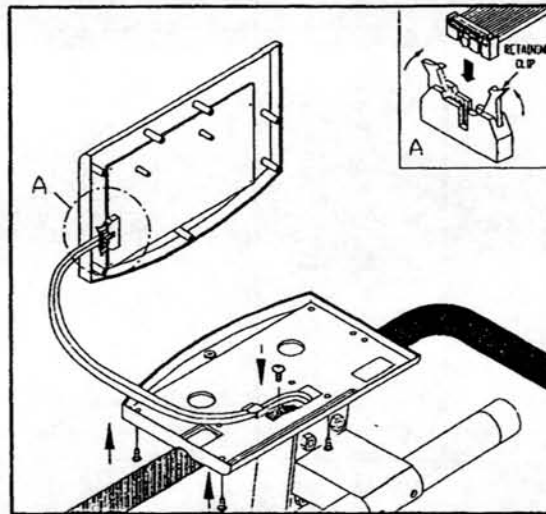

Fig.10-3
1. Replace a new RIBBON CABLE and fasten the screw of the CABLE FIXED BAND and plug the cable into RETAINING CLIP. Assemble the COVER OF PANEL by screwing. (see fig.10-3)